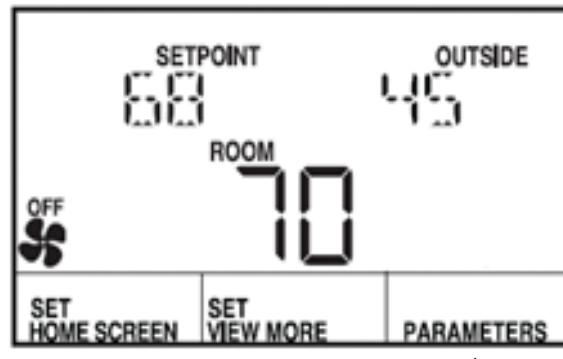

Fig. 32. Parameter display showing editing sequence.
- When clicked, the **EDIT** softkey drops you into the parameter list for the displayed category and displays the first parameter in that category (e.g. the **HUMIDITY** parameter in the **SET PNTS** category as shown in Fig. 32).